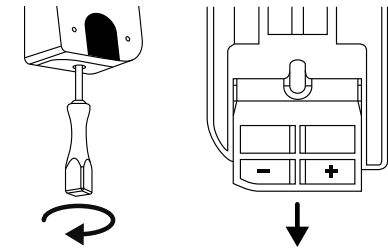

Fig. 110
- 3 Remove the screw from the bottom of the keypad using the Tx8 screwdriver supplied with the keypad and pull the battery compartment downwards (Fig. 110).